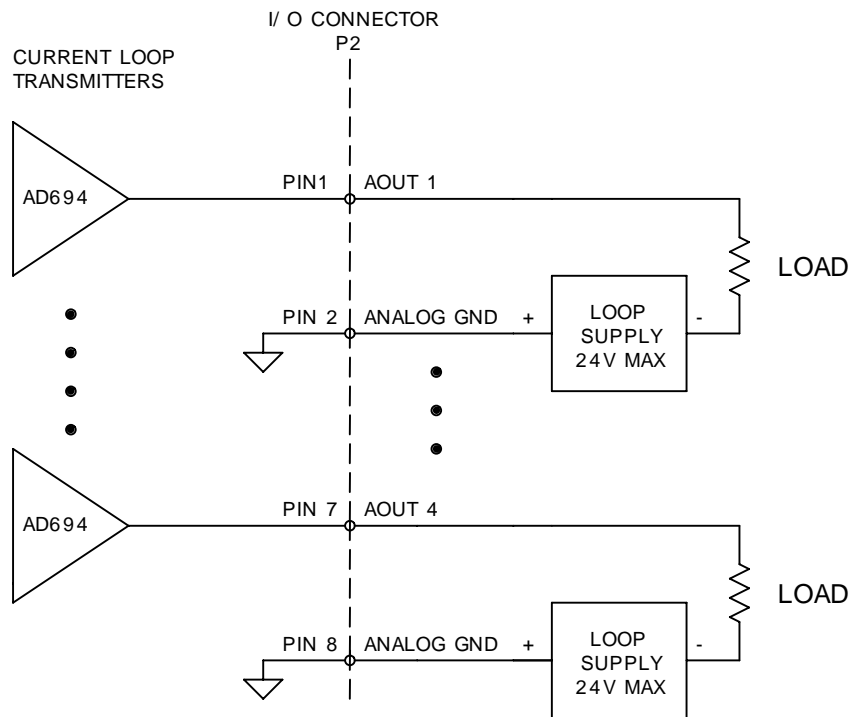

Fig. 2-5 — Current Output Connections, Multiple Loop Supplies
**Current Loop Operation, Multiple Loop Power Supplies:** Figure 2-5 shows how to connect the current loop transmitter outputs to corresponding loads with an external loop supply not exceeding 24 volts in each loop.